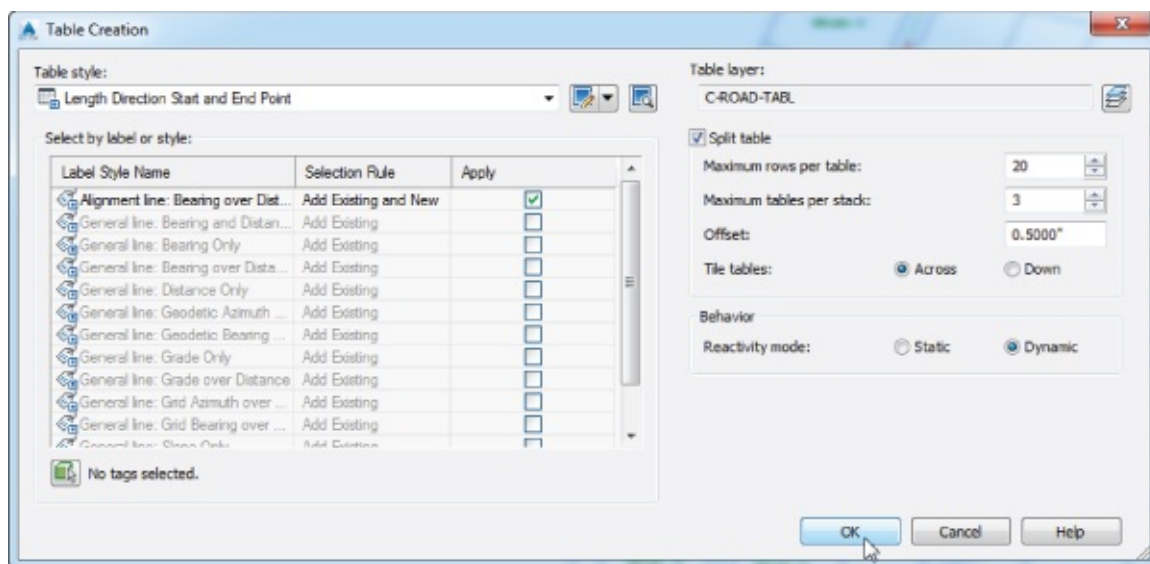

Figure 6.52 Creating an alignment line table
2. Verify that a check mark appears in the Apply column for the Alignment Line: Bearing Over Distance label, as shown in Figure 6.52, and that the Add Existing And New rule is selected.